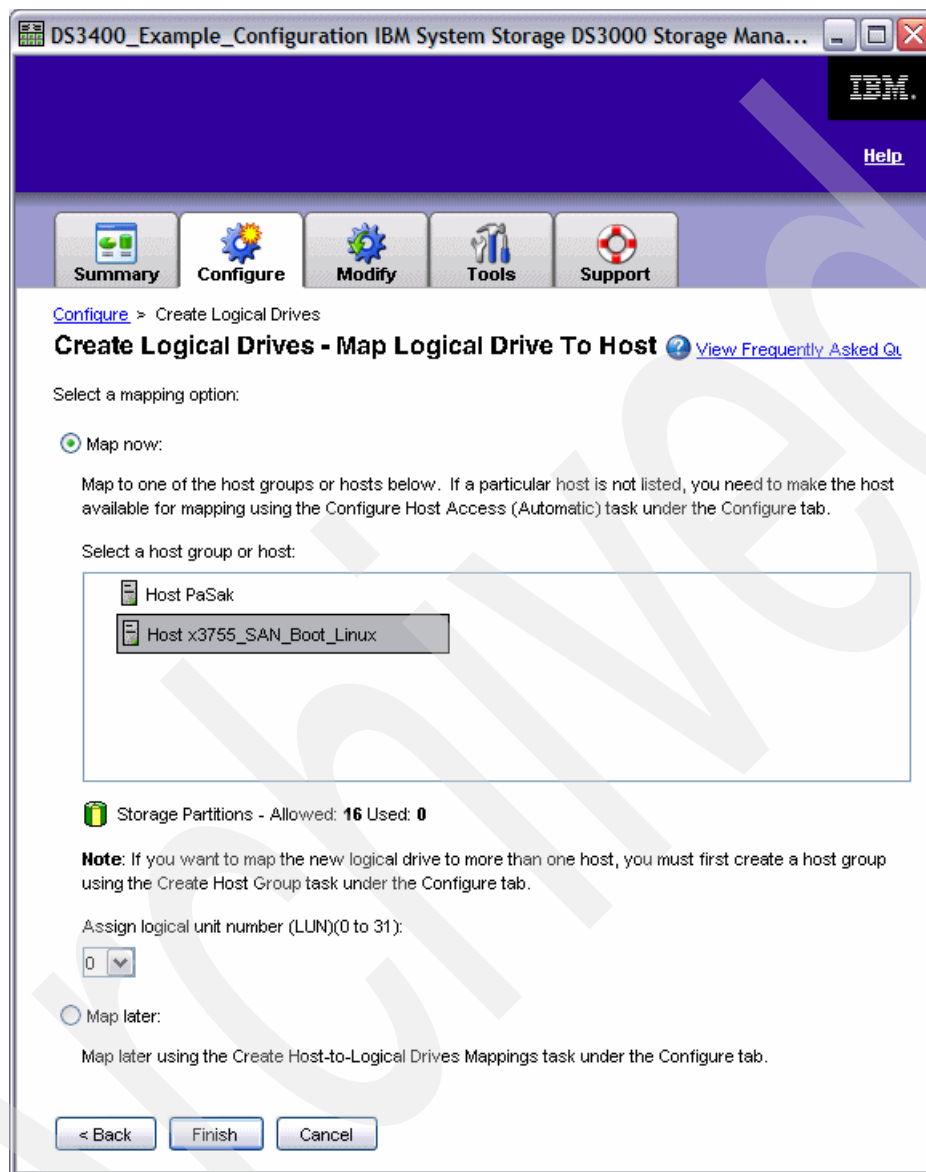

Figure 26-17 Map Logical Drive To Host
7. Now we map the host to the logical drive. Select the newly defined host **x3755\_SAN\_Boot\_Linux** and assign the logical drive as LUN 0, as shown in Figure 26-17.